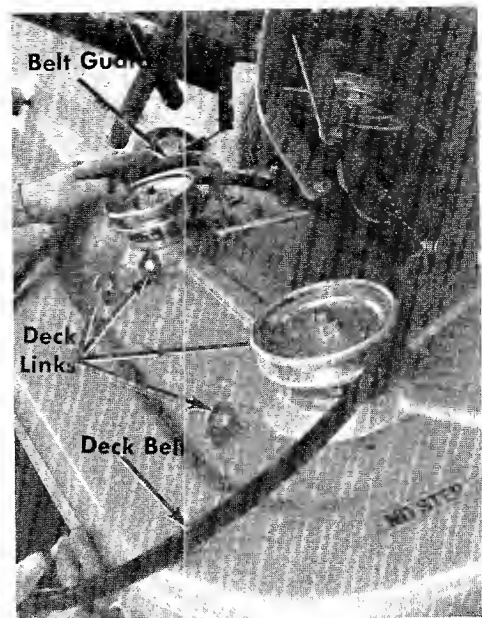

FIGURE 29. DECK LINKS
Step 6. Remove the front four deck links from the cutting deck. See figure 29.
Step 7. Remove the belt guards from both deck pulleys. See figure 29.
Step 7. Tip the deck down as shown in figure 29.